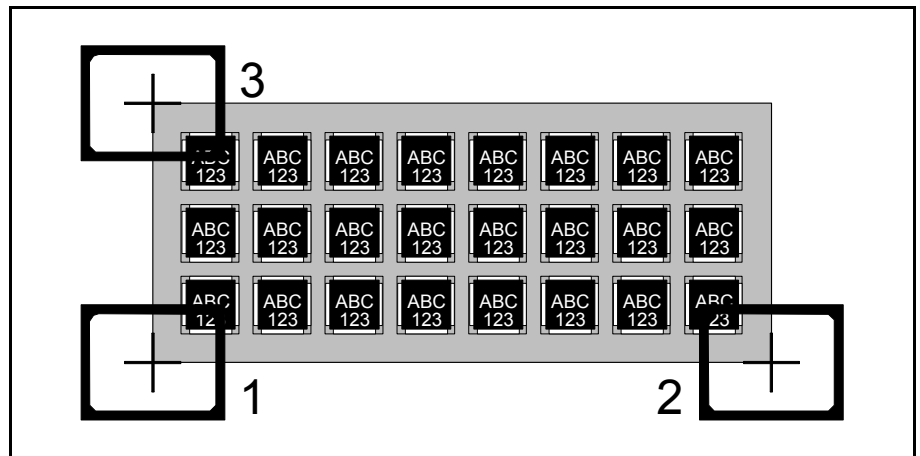

Figure 6-24. Tray width and length measuring
You can enter these values either by typing them from the keyboard or by measuring with the camera. If you prefer to use the camera, then press <F1> and center the tray corners in the order indicated on the screen. Figure 6-24 shows the lower left corner (1), the lower right corner (2), and the upper left corner (3).